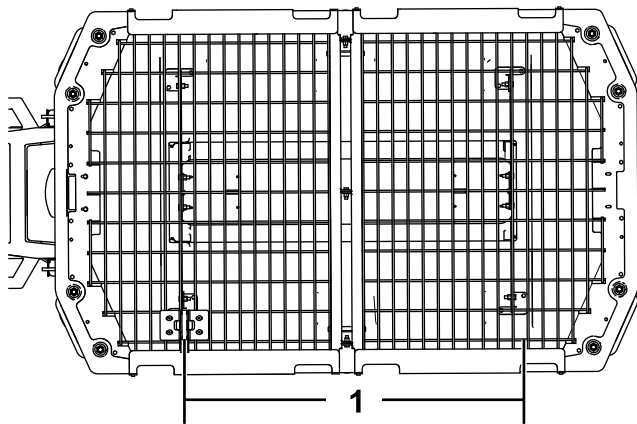

Figure 18
5. Starting at the center of the mounting bracket, measure the distance found in step 4 and make a mark on the top screen (Figure 18).